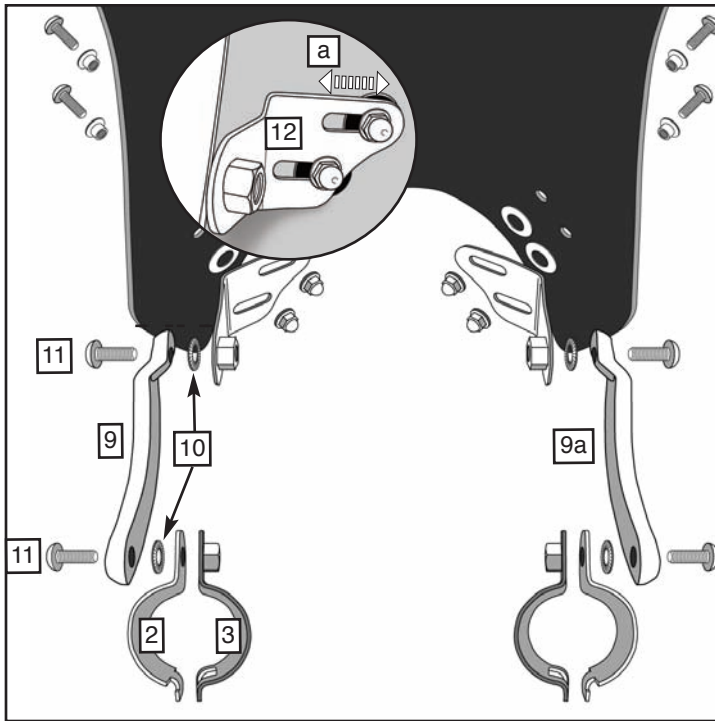

Figure 5
a. Adjustment of Inside Bracket (12)
10. Install the Left Offset Bracket (9) to the Inner Bracket (12) with 1, Serrated Washer (10) and Screw (11). **(6mm Hex Wrench) Figure 5**
11. Repeat on Right side using Right Offset Bracket (9a). **(6mm Hex Wrench) Figure 5**
13. Hold Inner Clamp (3) to inside of fork tube, hook Outer Clamp (2) to the Inner Clamp. **Figure 5 and 6**
14. Secure Clamp Assemblies to the Offset Brackets (9 and 9a) with remaining M6 Screws (11) and Washers (10). **(6mm Hex Wrench) Figure 5.**